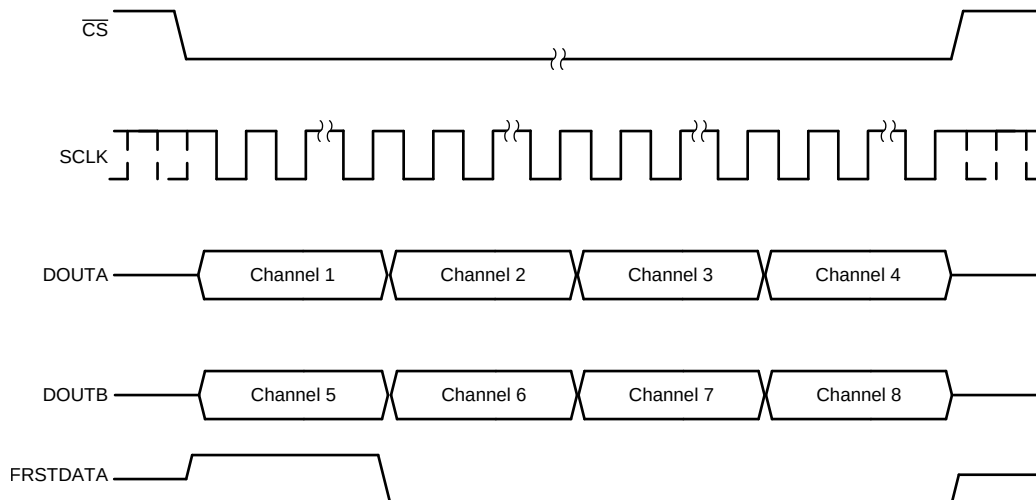

图 70. Data Read Back in the Serial Interface Using Both DOUTA and DOUTB Timing Diagram
- In order to minimize the time for the data read operation in serial mode, both DOUTA and DOUTB can be used to read data out of the device. In this case, the conversion results from the first set of channels (channels 1-4) appear on DOUTA and the conversion results from the second set of channels (channels 5-8) appear first on DOUTB. To read the data for all channels, provide a total of $18 \times 4 = 72$ SCLK cycles. This entire data frame can be created within a single $\overline{CS}$ pulse or each group of 18 SCLK cycles can be individually framed by the $\overline{CS}$ signal. 图 70 shows this operation.